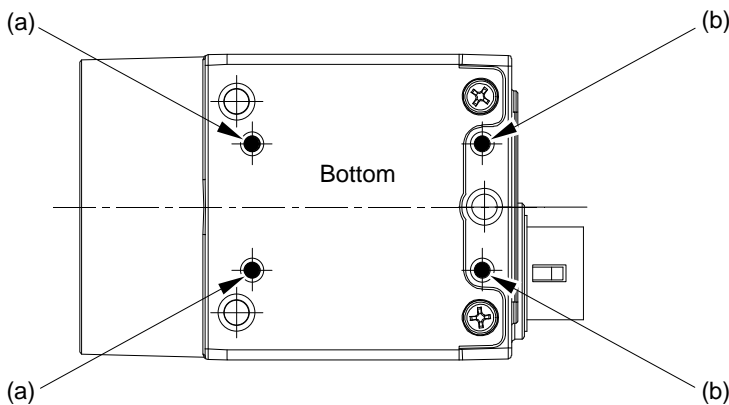
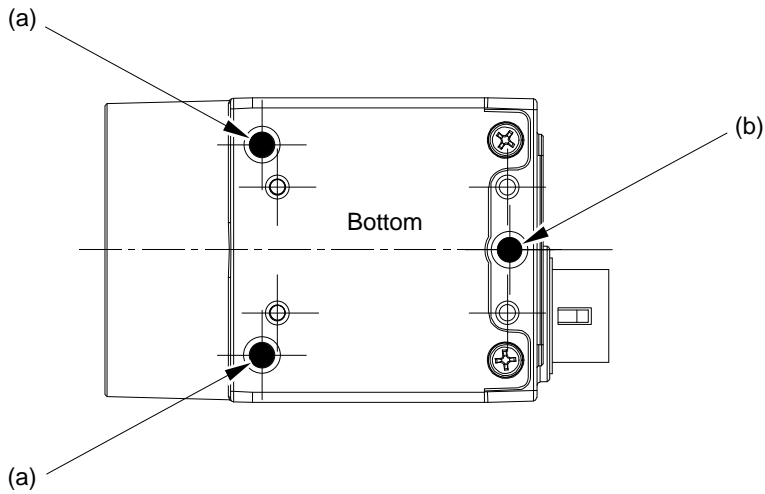

Fig. 29: Designations of the Mounting Screw Holes for the M2 Screws.
Fig. 30: Designations of the Mounting Screw Holes for the M3 Screws.
The tightening sequences are illustrated in Figure 29 and Figure 30 for cameras with C-mounts. However, the tightening sequences apply equally to cameras with CS-mounts.
1. Tighten the screws for the mounting screw holes (a) in Figure 29.
2. Tighten the screws for the mounting screw holes (b) in Figure 29.
1. Tighten the screws for the mounting screw holes (a) in Figure 30.
2. Tighten the screw for mounting screw hole (b) in Figure 30.